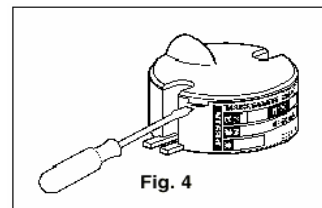

Fig. 4
VERY IMPORTANT: Check that the temperature probe's measurement range matches the range for which the 405000 is configured. In the event that reconfiguration is necessary see Sections 7 and 8. Open the 405000 by removing the lid (Fig. 4) to access the terminal block. Refer to Fig. 5 and the text below for terminal connection information.
- 1) Remove the 405000 cover (**Fig. 4**), to access the printed circuit.